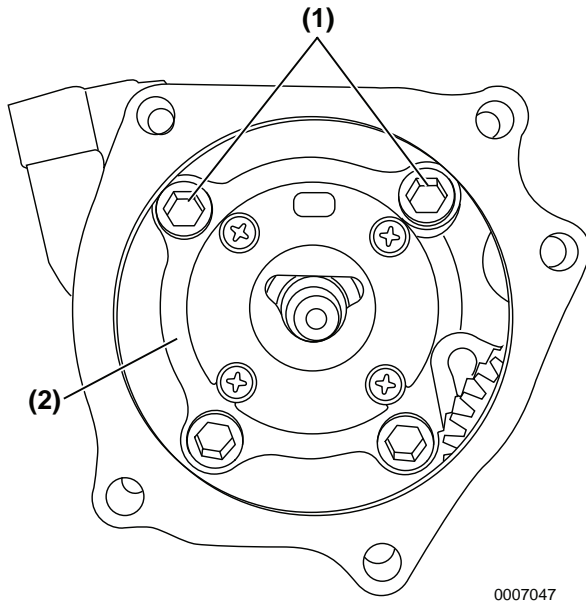

Figure 7-11
18. Remove the four bolts (**Figure 7-11, (1)**) and metal gasket (**Figure 7-11, (2)**) fastening the fuel injection pump to the cylinder block. Remove the fuel injection pump. **NOTICE: Do not rotate the crankshaft with the injection pump removed.**